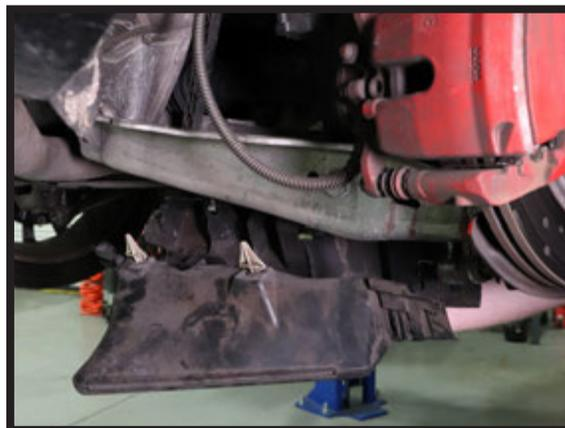

FIGURE 1
3. REMOVE COVER FROM CONTROL ARM. (FIGURE 1)